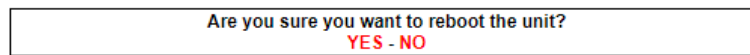

Figure 55. Configurator GUI (unit reboot dialog)
- The unit reboot dialog will be shown (Figure 55 (page 100)).